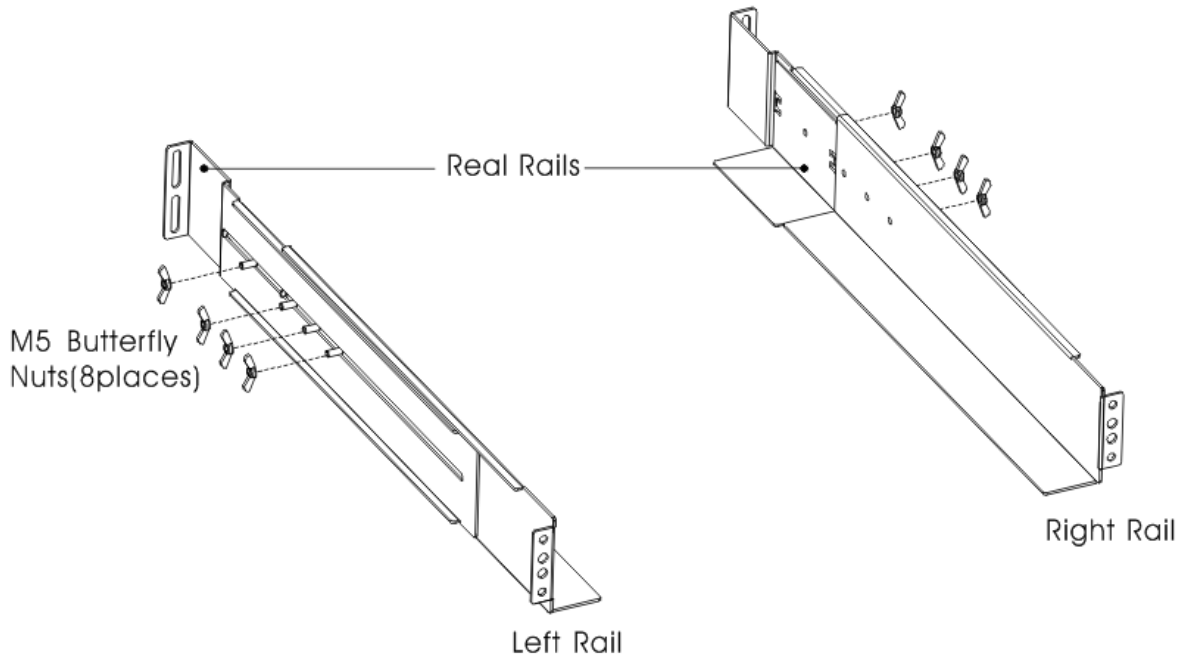

FIG. 2 Securing the Rails
1. Assemble the left and right rails to the rear rails as shown in FIG.2. Do not tighten the screws. Adjust each rail size for the depth of your rack.
3. Tighten four M5 rivet nuts in the side of rail assembly(see FIG.2).